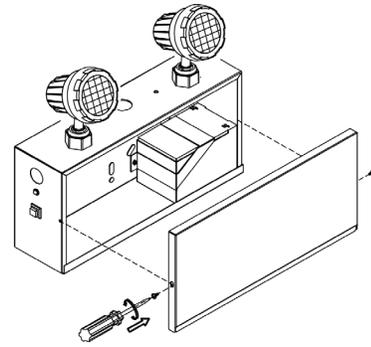

Fig. 1
2. Open the unit by unscrewing the cover screws on the sides of the unit. The front cover can then be removed (Fig. 1).